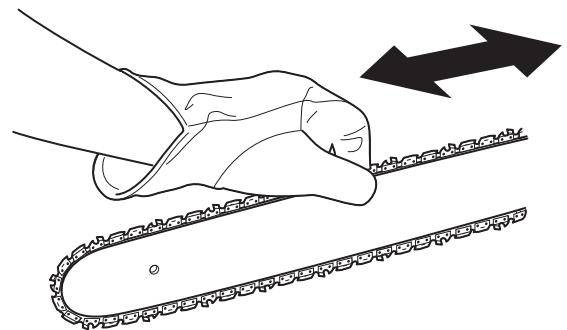

Fig. 26
3. Hold the guide bar tip up and move the saw chain back and forth along the guide bar (Fig. 26). Make sure the saw chain moves freely and is in proper mesh with the sprocket. If the saw chain does not move easily, slowly turn the chain-tensioning screw counterclockwise to loosen the saw chain.